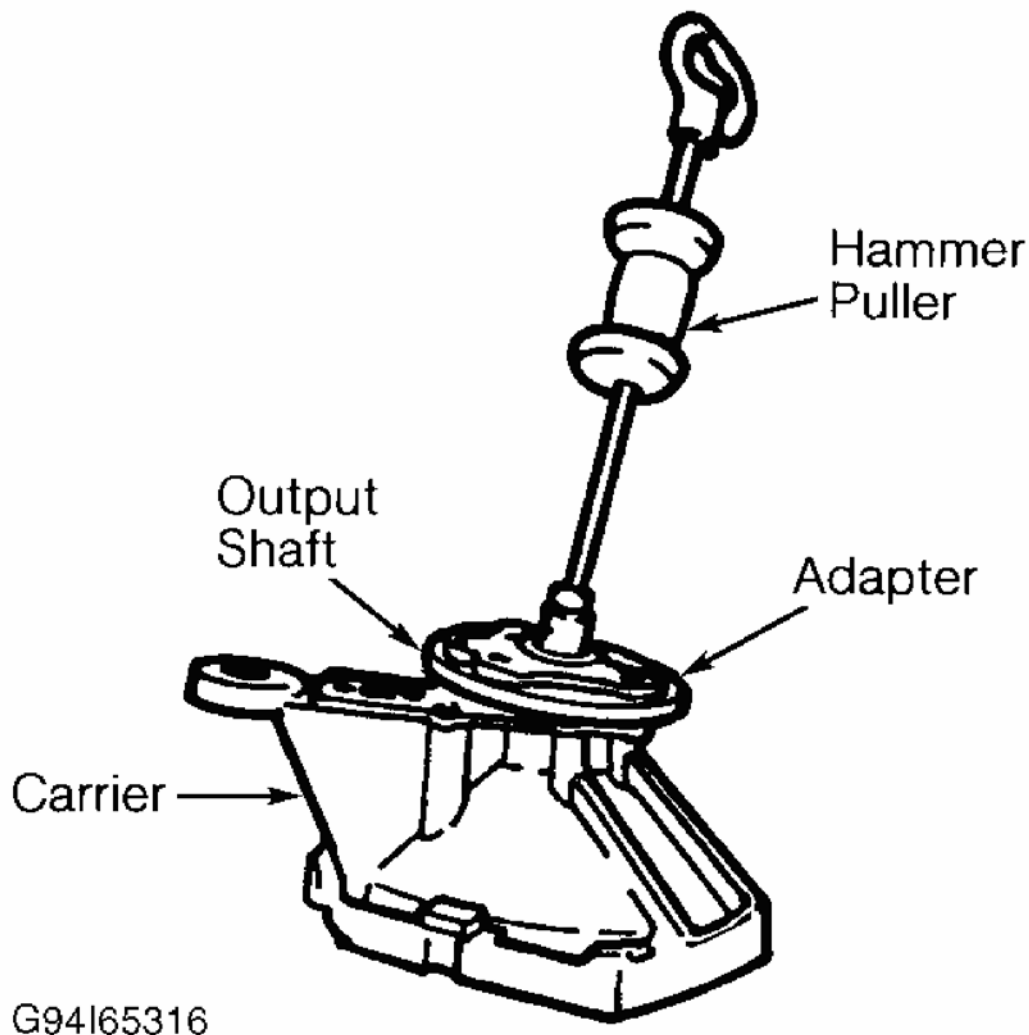

Fig. 8: Removing Left Output Shaft From Carrier
3. Remove left output shaft with deflector from carrier assembly using Slide Hammer (J-2619-1). See **Fig. 8** . Pry out left output flange seal with a screwdriver. Remove left and right output shaft bearings using Bearing Remover (J-29369-1 for K2; J-29369-2 for K3). Remove bolts holding carrier halves together. Tap on lugs provided to separate carrier halves.